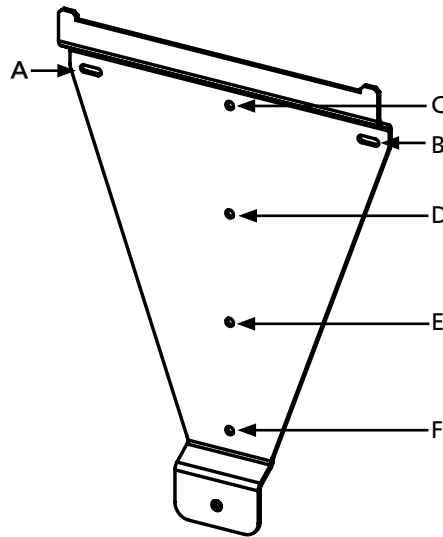

Figure 3-1 Small Mounting Bracket
- Has two top screw holes at either end of the large bracket, 16" apart which are designed to match standard stud spacing. Refer to Figure 3-1.
- Use an 1/8" screw (and anchor if necessary) to secure point E. Refer to Figure 3-1.